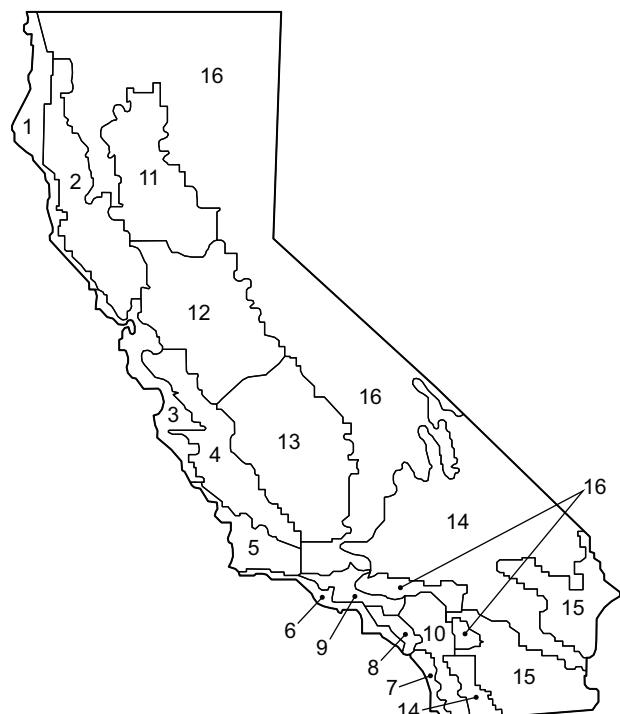

Fig. 74 — California Title 24 Zones
- b. See Fig. 74 for map of California Title 24 zones.